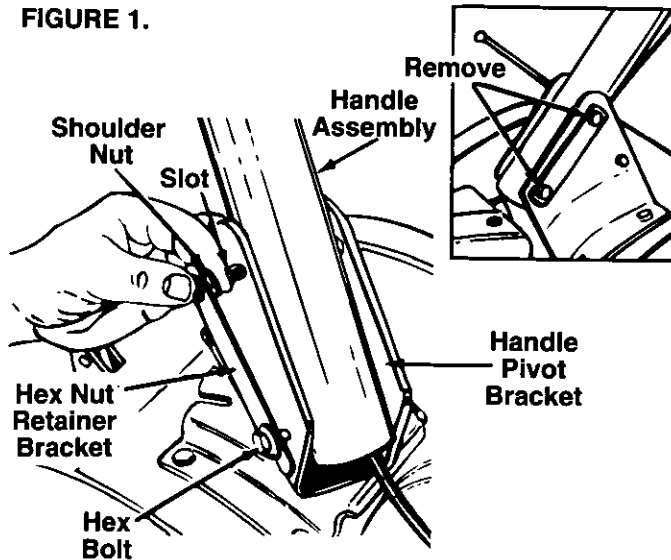

FIGURE 2.
1. Remove the hardware from the handle pivot bracket as shown in figure 2, inset.
3. Place handle assembly in position in the handle pivot bracket. Line up the holes in handle assembly with the holes (and slots) in the pivot bracket. See figure 2.
5. Place shoulder nut between hex nut retainer bracket and pivot bracket. See figure 2.